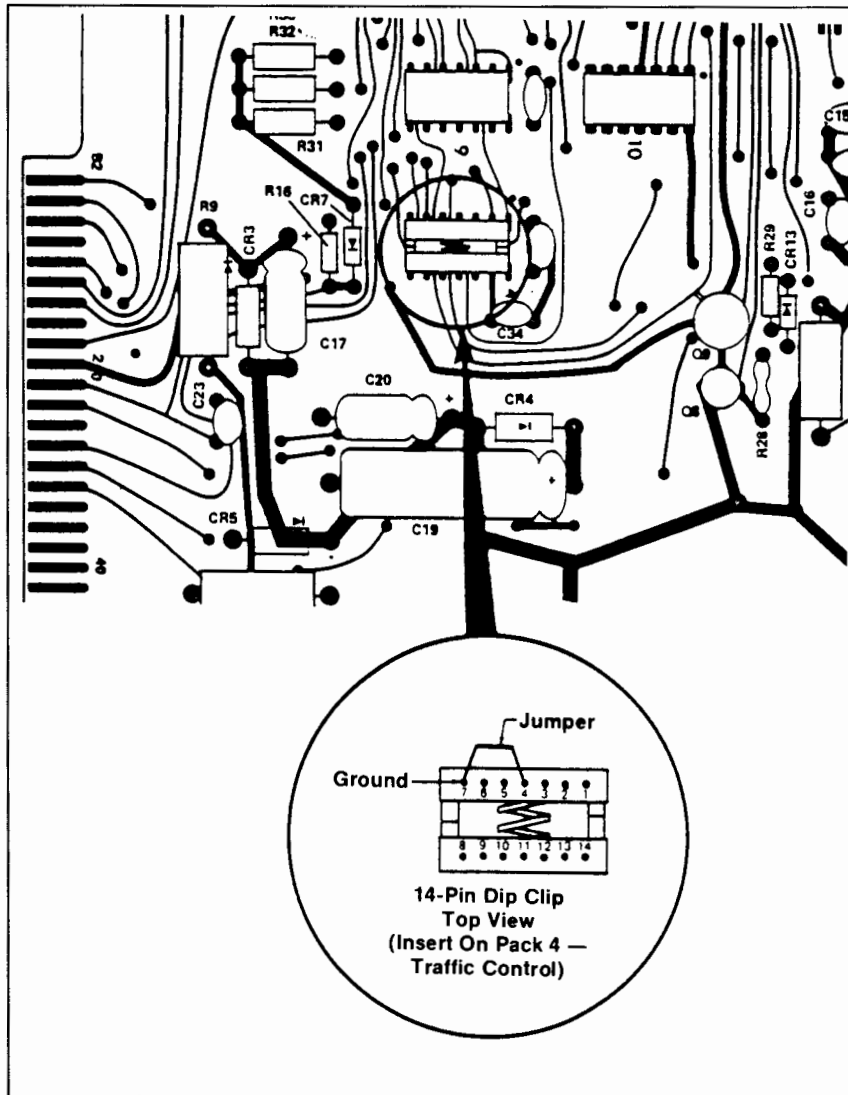

Figure 6-1. Traffic Control PCA
6. On the Traffic Control PCA, ground pin four (4) of pack four (4) (See Figure 6-1 for orientation).